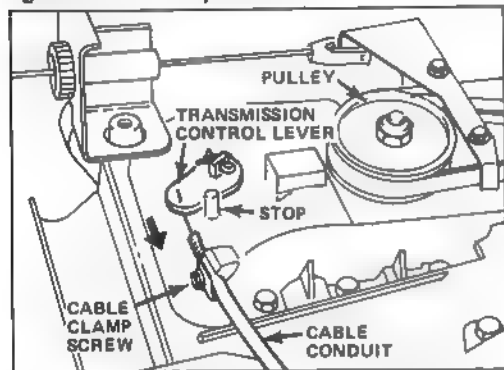

Figure 28
4. ADJUSTMENT (Fig. 28) — Loosen cable clamp screw until cable conduit slides. Move ground speed control to "N" position. Push transmission control lever toward stop until you feel a "snap". The transmission control lever should be close to the stop when the snap is felt. Pull cable to remove any slack and tighten cable clamp screw.
5. CHECK ADJUSTMENT — Assure ground speed control is in "N" and pull mower backward. Pulley (Fig. 28) should not rotate. If pul-